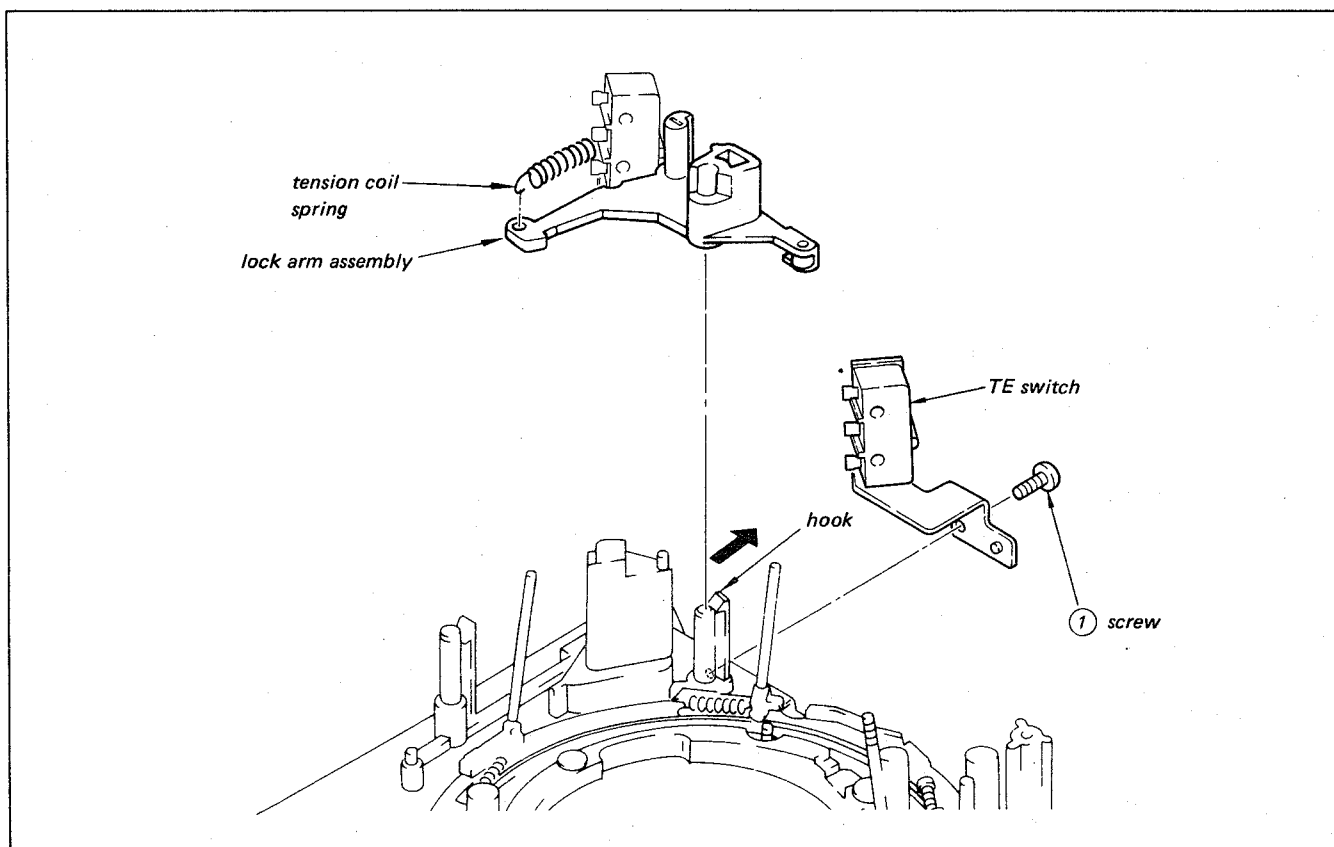

Fig. 3-34. Removing TE Switch and Lock Arm Assembly
- 1) Remove the spring of the lock arm assembly. (Refer to Paragraph 3-15-1, Fig. 3-34)
- 2) Remove stop washers ① and ring rollers ②, ③.
[Removal] (Fig. 3-34)